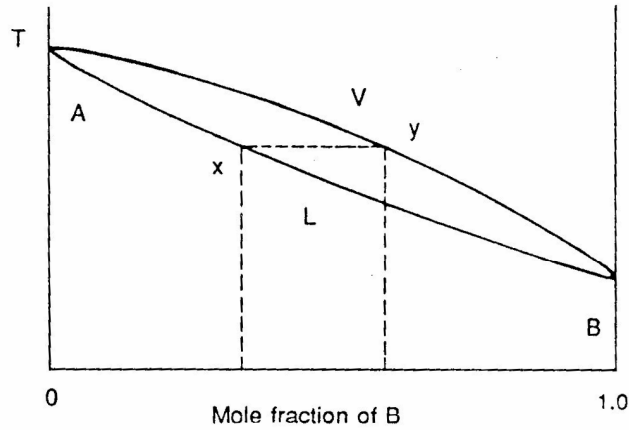
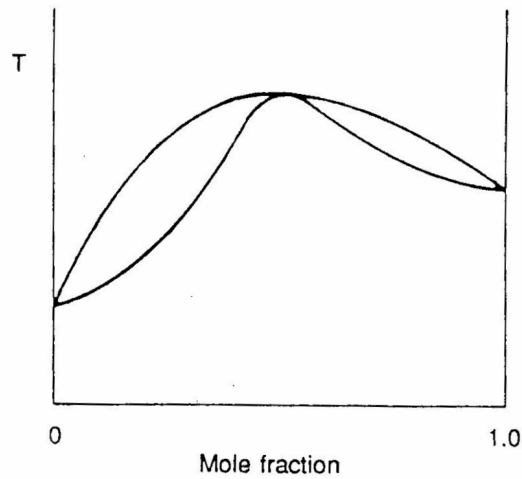

Fig.1.
Fig.2.
It follows from Eqs. 5 and 7 that even if the molar enthalpy of mixing is zero the total pressure does not depend linearly on the mole fraction of the vapor phase. At constant external pressure the boiling point is a nonlinear function of both x and y (Fig.1.).
In some cases i.e., when there is an interaction between the components A and B, a maximum or minimum may occur in the liquidus (L) and vapor (V) curves. This maximum or minimum appears at a definite composition and that mixture is called an **azeotrope** (see Fig.2.). The toluene- CCl_4 mixtures behave approximately ideally and their L and V curves resemble the ones in Fig.1, while the chloroform-acetone system has an azeotrope, similar to Fig. 2.